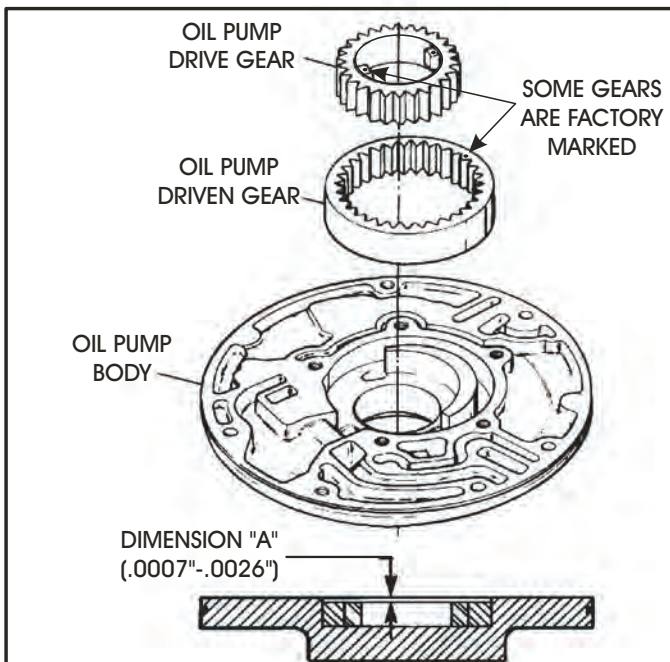

Figure 95
9. Install the outer and inner pump gears into the pump body with previous marks facing up, as shown in Figure 95.
10. Measure the clearance between the pump gears and the face of the pump body. This clearance is shown as Dimension "A" in Figure 95.
13. Re-install outer and inner pump gears in proper direction with marks facing up, as shown in Figure 95, and lubricate with trans fluid.